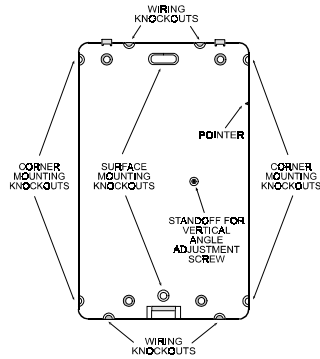

Figure 3. Knockout Locations
2. Punch out the appropriate mounting knockouts and wiring knockouts in the base (Fig. 3). The round knockout at the bottom and the elongated knockout at the top serve for surface mounting. The knockouts at the angled sides are provided for corner mounting.